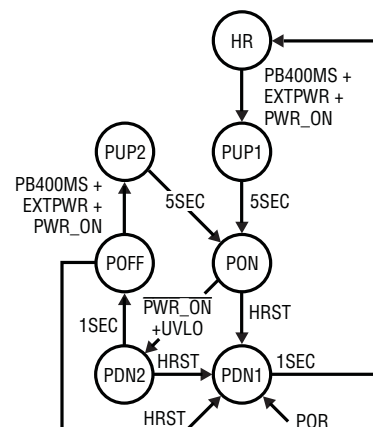

Figure 18. Pushbutton State Diagram
Figure 18 shows the LTC3577 pushbutton state diagram. Upon first application of power (V_{BUS} , WALL or BAT) an internal power-on reset (POR) signal places the pushbutton circuitry into the power-down (PDN1) state. One second after entering the PDN1 state the pushbutton circuitry will transition into the hard reset (HR) state. The following events cause the state machine to transition out of HR into the power-up (PUP1) state: